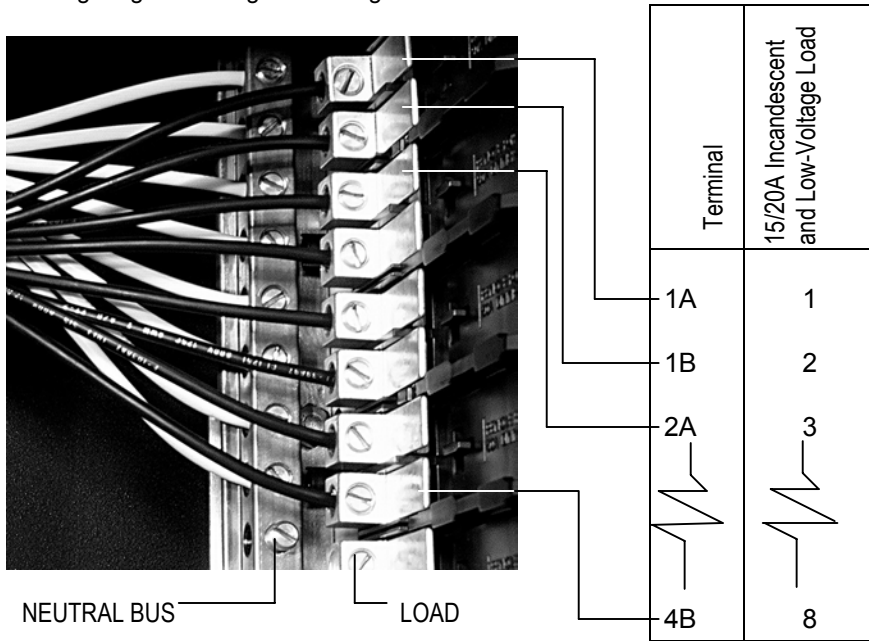

Figure 4 – Load Terminal Wiring
• Referring to Figure 4, connect the load conductor for the first (upper) dimmer to the upper load terminal, and the second load conductor to the lower load terminal. Terminate their respective neutral conductors to the adjacent neutral terminals located directly behind the load lug. Tighten all lugs according to Table II.